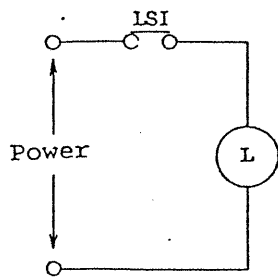

Fig. 1
- o Typical wiring examples are illustrated in Figs. 1 to 2.